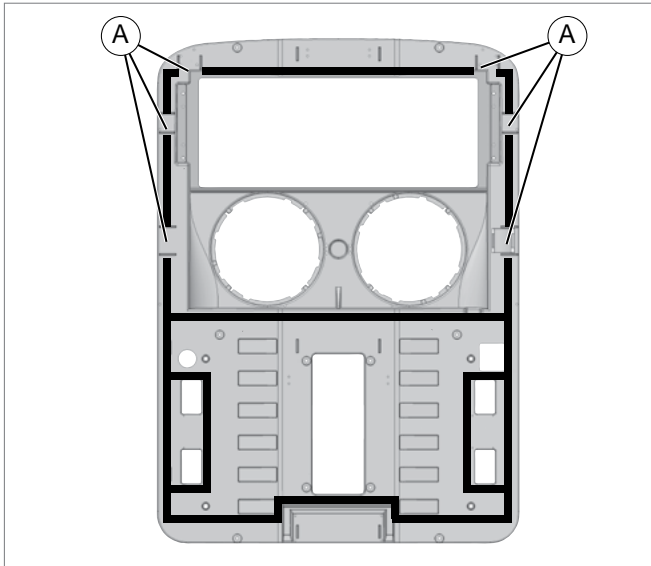

Fig. 08: Seal position for roof curvature of 5,200 mm
- ▶ Cut the seals to length, see Fig. 08